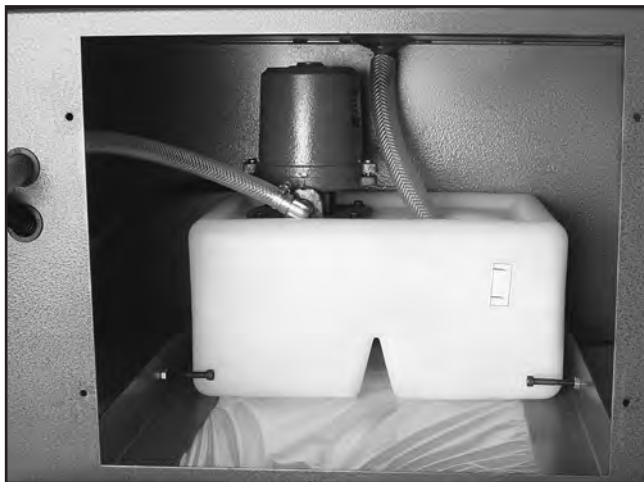

Figure 23. Coolant system reservoir and cover.
1. Access the reservoir by removing the rear panel on the base (see **Figure 23**).